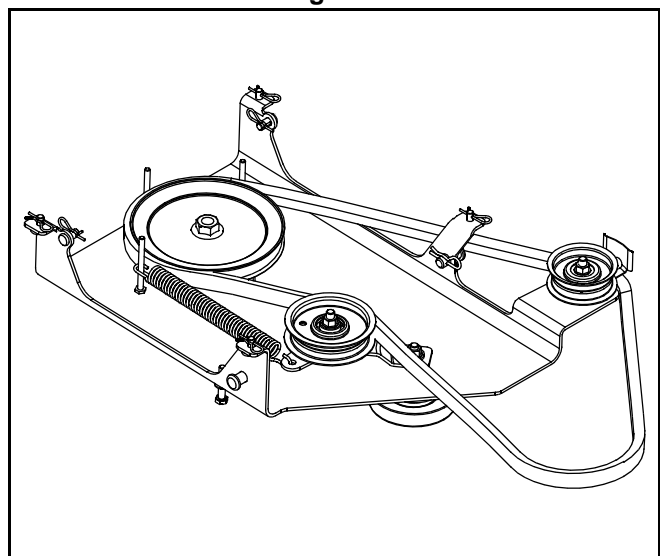

Figure 7
- Position the upper v-belt (754-0371A) as illustrated in Figure 7.